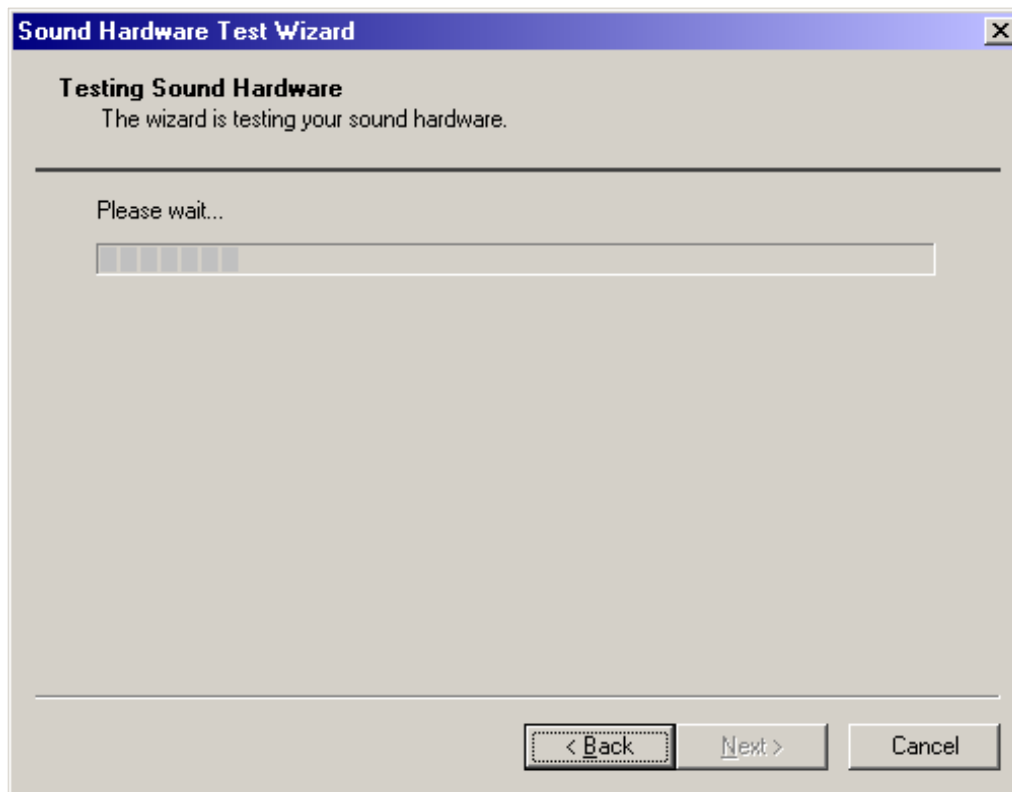

Figure 270. Wait while the hardware test wizard runs
8. The window seen in Figure 270 will appear while the testing continues.